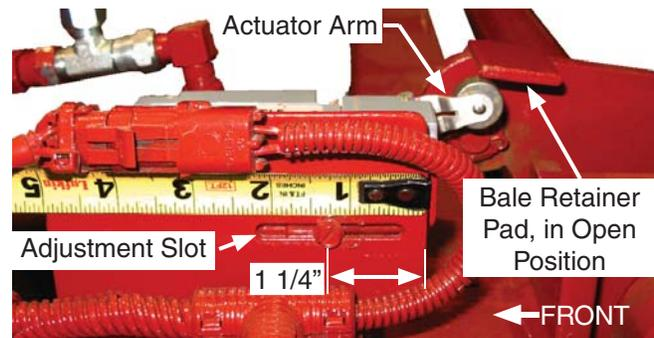

Figure 29 - Limit Switch - 10 Adjustment
1. Adjust the arm to contact on the bottom surface of the metal pad on the Bale Retainer. The arm should not be positioned such that it will bind and bend when contacting the pad surface. This will happen if the roller is adjusted to contact the surface at a perpendicular angle (see Figure 29).